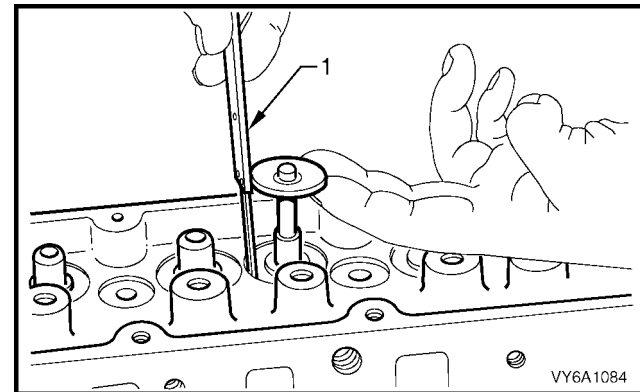

Figure 6A1-1-130
4. Use a vernier caliper (1) to measure from the machined spring seat to the underside of the valve spring cap, see Figure 6A1-1-128.